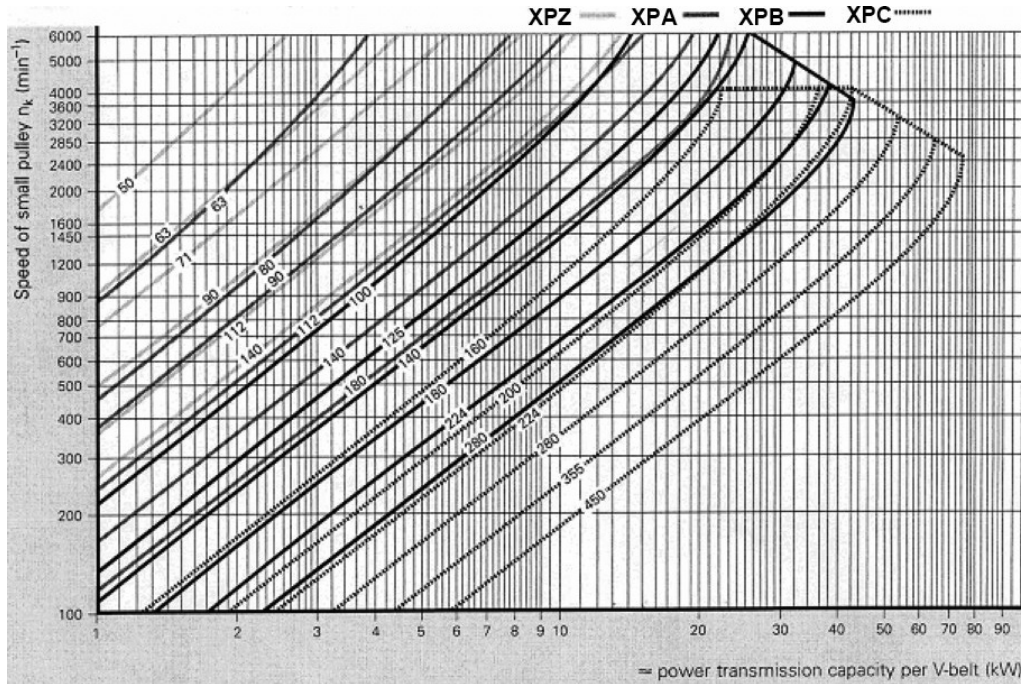
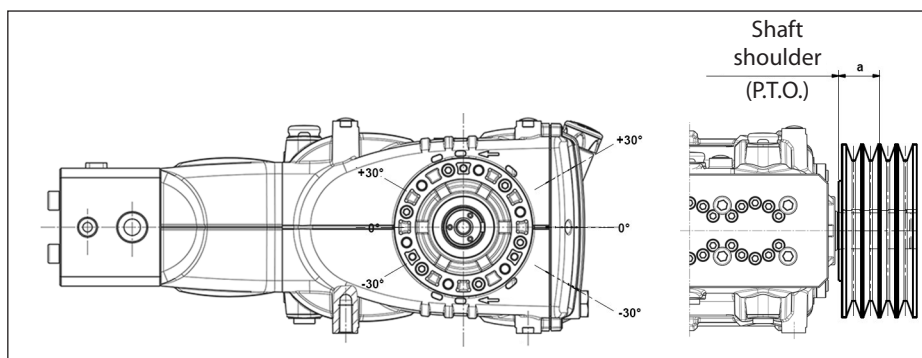

Fig. 8
Fig. 11
The pump can be controlled by a V-belt system. For this pump model, we recommend use of 3 XPB belts (16.5x13 serrated). Use an XPC profile only for long durations. Both the characteristics and transmissible power of each belt can be verified in the diagram in Fig. 8, in relation to the number of rpm normally declared by the manufacturer. Minimum duct pulley diameter (on pump shaft): ≥ 160 mm. The radial load on the shaft must not exceed 4500 N (value necessary for Layout definition). The transmission is considered adequate if the load is applied to a maximum distance $a=50$ mm from the shaft shoulder (P.T.O) as shown in Fig. 11.
- b) Use high performance belts – for example **XPB** instead of **SPB** – as a lower quantity of belts for the same transmitted power may be necessary and a consequent shorter resulting distance compared to the shaft shoulder (P.T.O) “a” of Fig. 11.
- e) Follow the direction of the belt pull as shown in Fig. 11 for other needs, contact our **Technical** or **Customer Service Departments**.